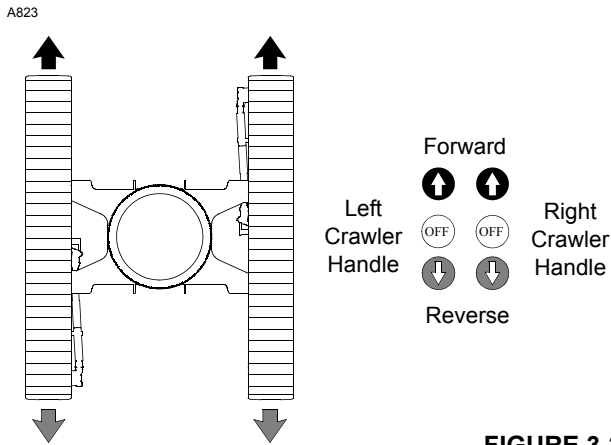

FIGURE 3-24
9. To TRAVEL STRAIGHT (Figure 3-24), move both crawler handles same amount in desired direction from off.